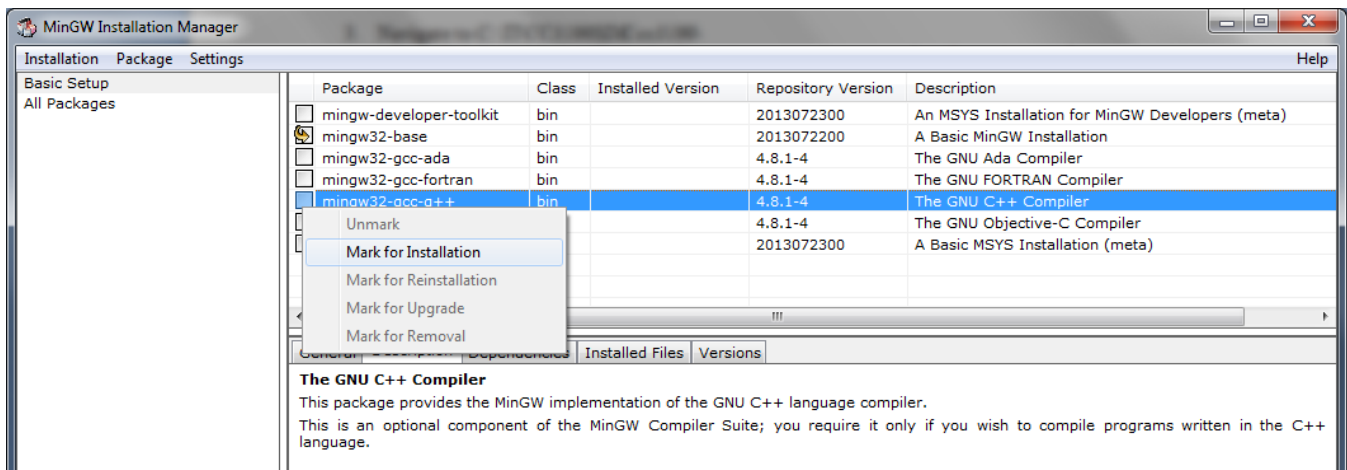

Figure 5. MinGW Installation Screen
- b. In the MinGW Installation Screen, select packages for **mingw32-base** and **mingw32-gcc-g++** as shown in Figure 5.